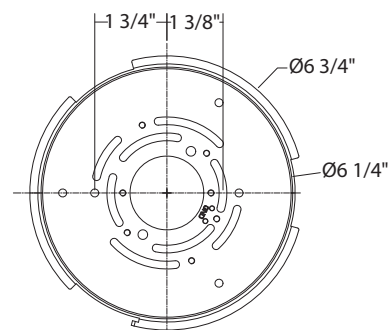

Fig.3 Driver Wires
#### MOUNTING THE FIXTURE (Fig. 1 / Fig. 3)
- b) Due to limited space within the canopy, shorten the cable as necessary to make the installation easier. Make sure to identify and label all the wiring properly before any trimming/shortening (Fig. 3).
#### CONNECTING THE WIRES (Fig. 2 / Fig. 3/ Fig. 4)
6. Connect the fixture, CCT switch, and driver's output wires to center cable as shown in Fig. 3, red to the white+, black to the black, blue to the black-, brown to the bare-, make sure that wire connectors(A) are secured. Then tuck them inside the canopy.